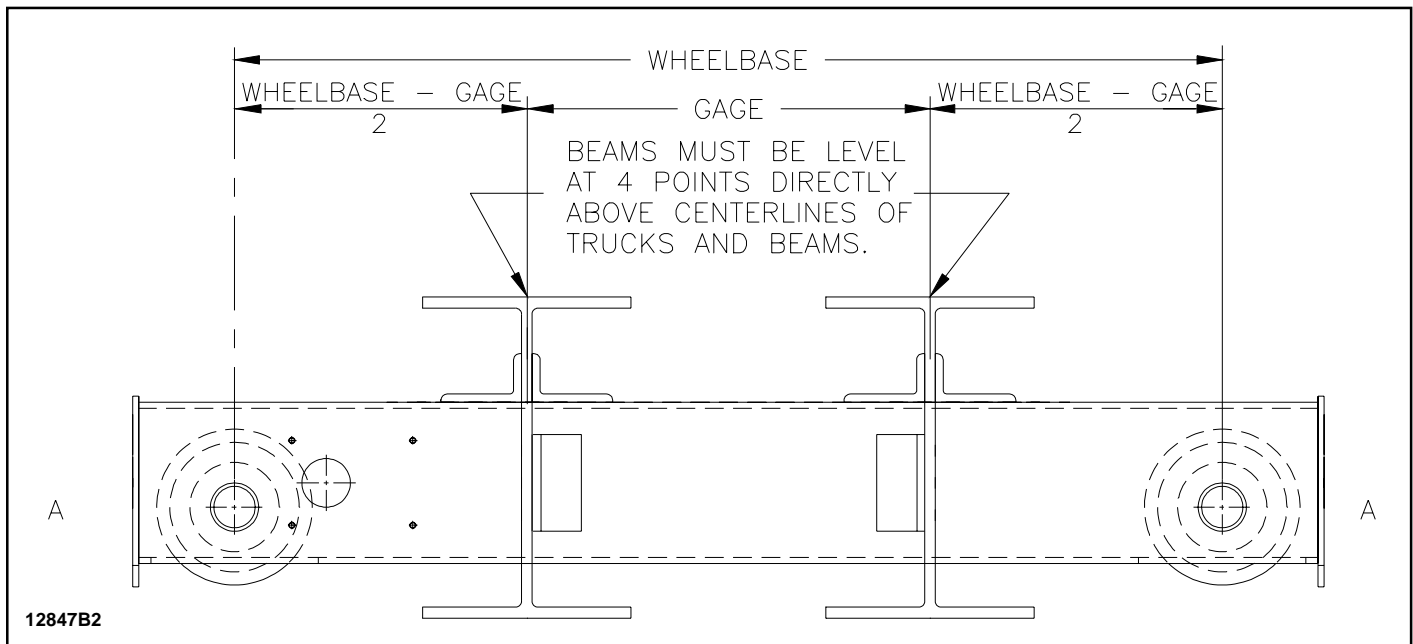

Figure 6.
When setting up the beams on supports, make certain that **the top flanges at the trucks are level** as shown in Figure 6.
2. Locate end trucks in the notch of the girders, one at each end of the girders. Make certain trucks are level with each other and are level at the four points as shown in Figure 6.